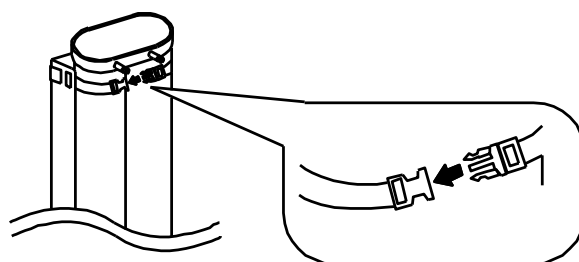

Fig.2
4. Fix the ion exchange resin cartridge with the band of receiver. (See Fig.2.)